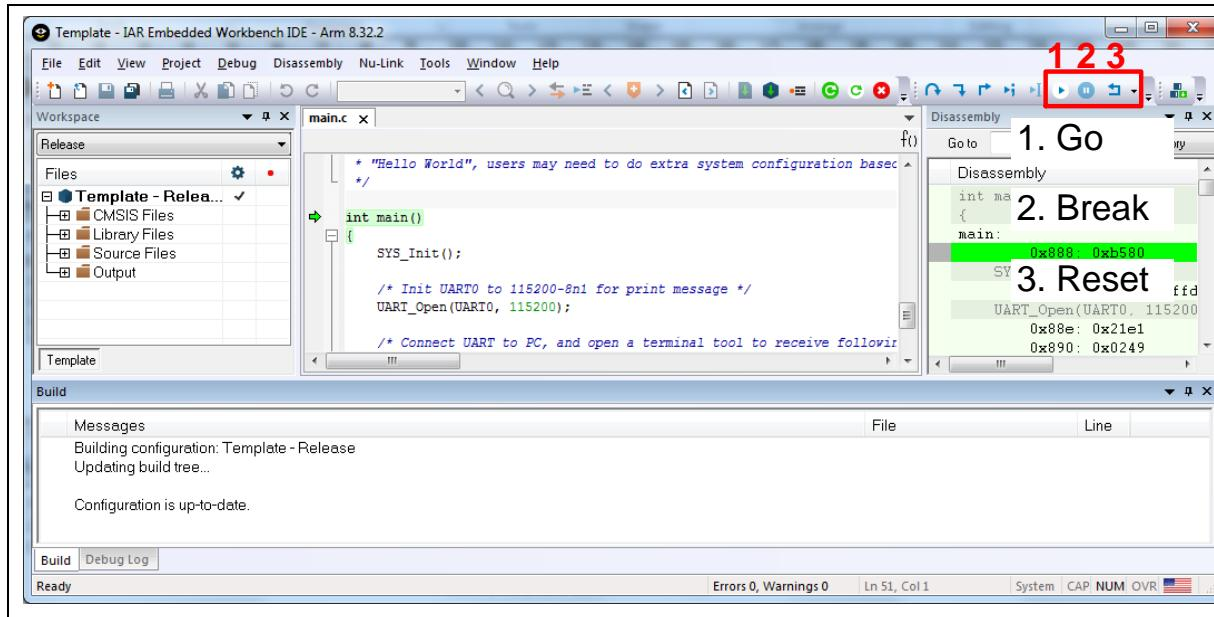

Figure 4-17 IAR EWARM Debug Mode
4. Figure 4-17 shows the debug mode under IAR EWARN. Click “Go” and the debug message will be printed out as shown in Figure 4-18. User can debug the project under debug mode by checking source code, assembly language, peripherals’ registers, and setting breakpoint, step run, value monitor, etc.